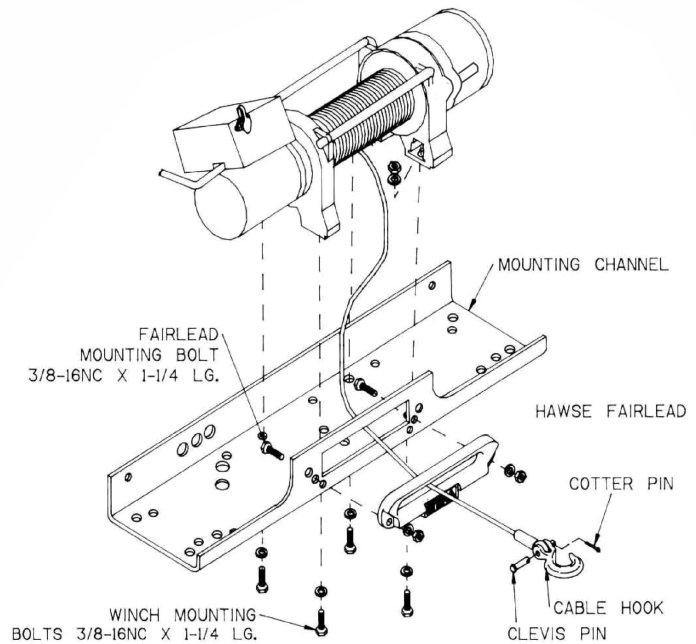

FIGURE 3
Attach fairlead to channel using hardware furnished with winch (see FIGURE 3). Attach winch to channel. Place (4) flatwashers and nuts into pockets of winch mounting feet and thread capscrews with lockwashers through mounting holes in channel and into hardware in winch feet.
Place end of wire rope through fairlead and attach cable hook. Use clevis pin and cotter pin (see FIGURE 3).